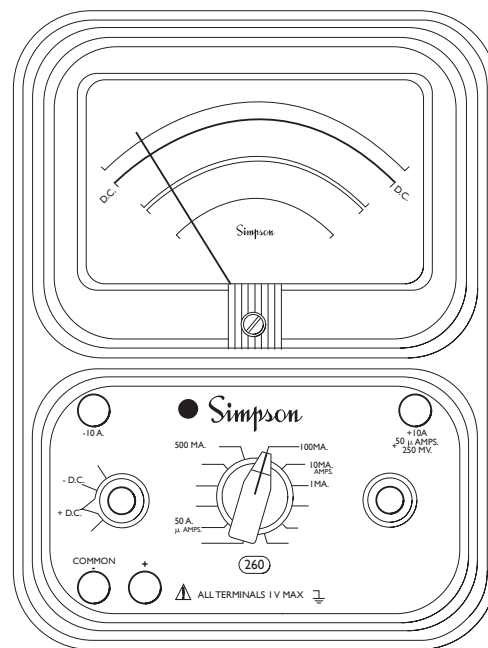

Figure 4-12. Jacks and Switch Positions for Measuring Direct Current
- Set the function switch at +DC (Figure 4-12).